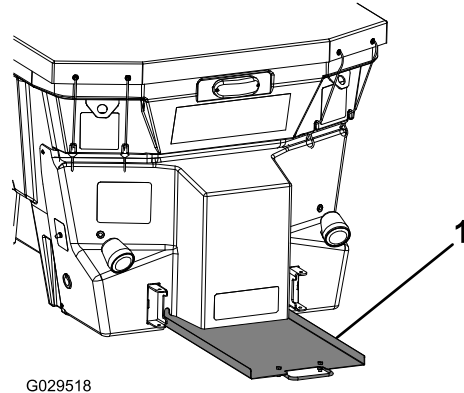

Figure 36
2. Lift up on the cleanout tray handle to clear the mount holes and slide the tray out (Figure 36).